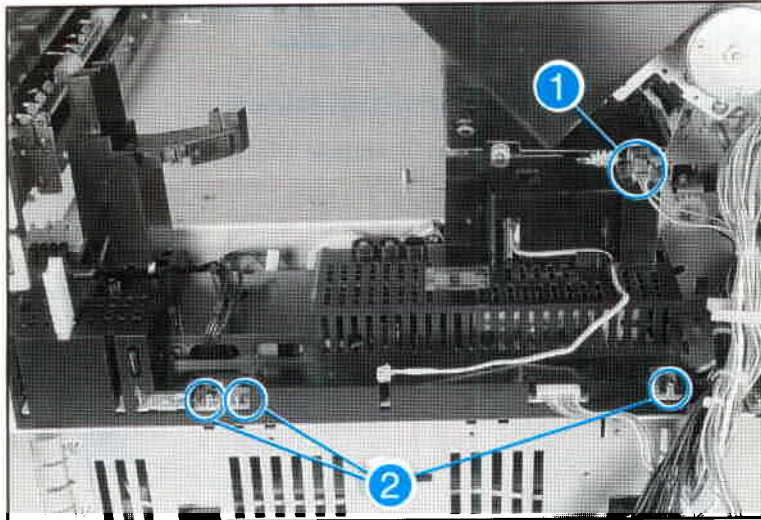

Figure 6-21 High Voltage Power Supply Screws
4. Unplug PS6 (see Figure 6-21, item 1).
7. Remove (3) screws from the High-Voltage Power Supply (see Figure 6-21, item 2). Note that these are longer screws (M3X12 Captive Washer).